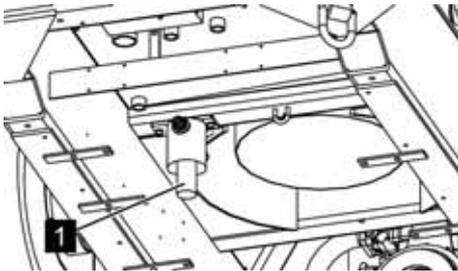

Fig. 146: Filter insert
7. ▶ Remove the filter insert (Fig. 146/1) and insert a new filter insert.